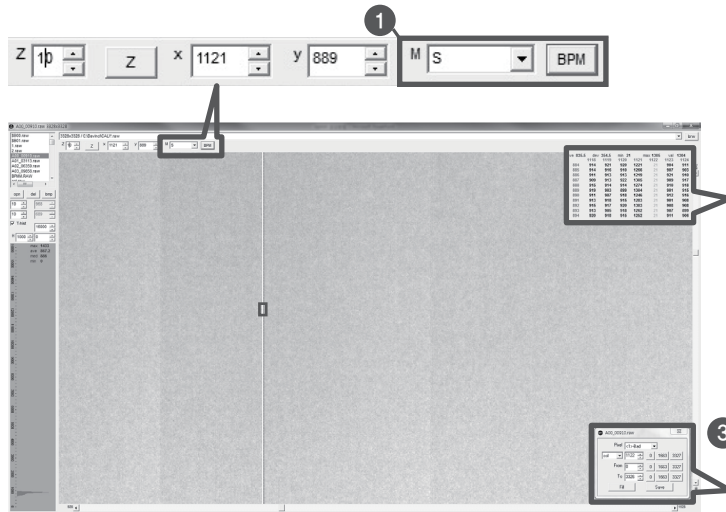

Figure 1. View Image
- ① At Figure 1, choose S from the list of M(①) and click "BPM". Check if BPMM window is popped up as Figure 3.